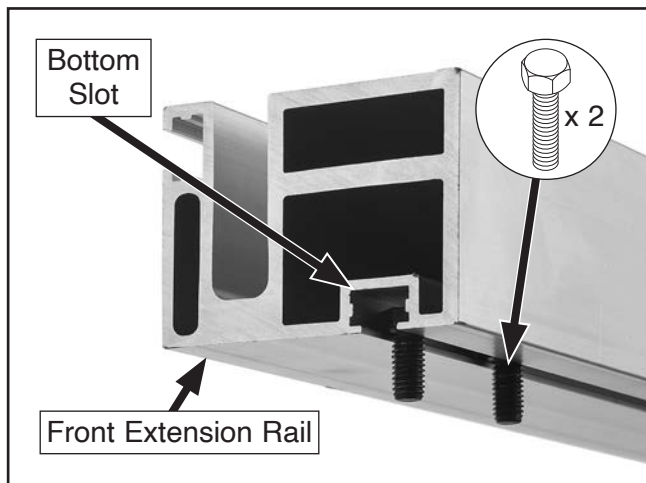

Figure 21. Hex bolts installed in front extension rail for mounting ON/OFF switch.
5. Insert (2) M8-1.25 x 16 hex bolts from G0771Z Inventory into bottom slot on left end of front extension rail (see **Figure 21**).